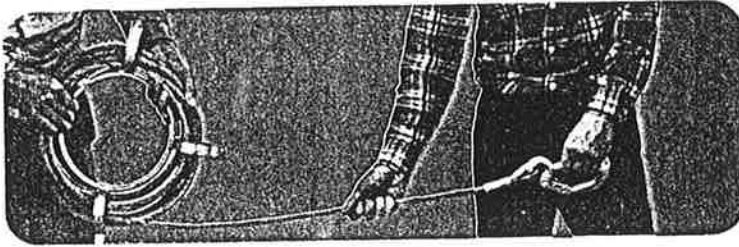

Fig.2
4.2. - Fig. 2 : installing the wire rope using gloves to protect the hands. Uncoil the wire rope in a straight line between the hoist and the load.